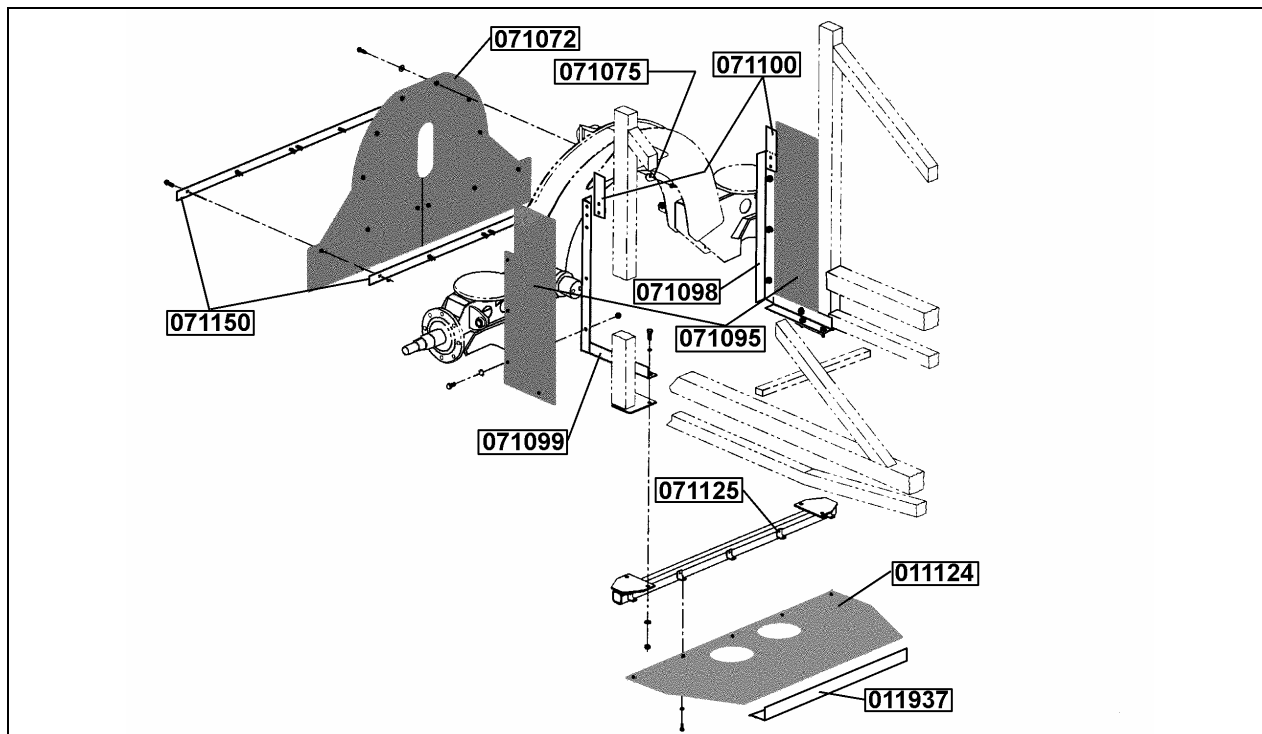

FIGURE 6 : H3 SERIES VEHICLES TRANSMISSION PROTECTIVE PANELS
1. Weld the five brackets (Prévost #071125) to the crossmember and weld the other bracket (Prévost #011937) to the other crossmember (refer to figures 6 and 7). Use protective panel (Prévost #011124) as a template for proper bracket positioning. Allow welding to cool then remove slag. Recoat welded surfaces. Insert protective panel between bracket (Prévost #011937) and crossmember and use five self-tapping screws (Prévost #502810) and washers (Prévost #500270) to secure protective panel underneath the transmission.
3. Use front protective panel (Prévost #071072) as a template to position six brackets (Prévost #071075). Weld the brackets in place and allow welding to cool before removing slag. Recoat welded surfaces. Secure top part of protective panel using six screws (Prévost #5001418), large flat washers (Prévost #5001417) and nuts (Prévost #502216). Also use front protective panel as a template to drill tag axle sub-assembly. Install two reinforcement (Prévost #071150), one in front of protective panel and the other one between protective panel and tag axle. Secure using six screws (Prévost #5001418), washers (Prévost #500270) and nuts (Prévost #502216) (refer to figures 6 and 8).